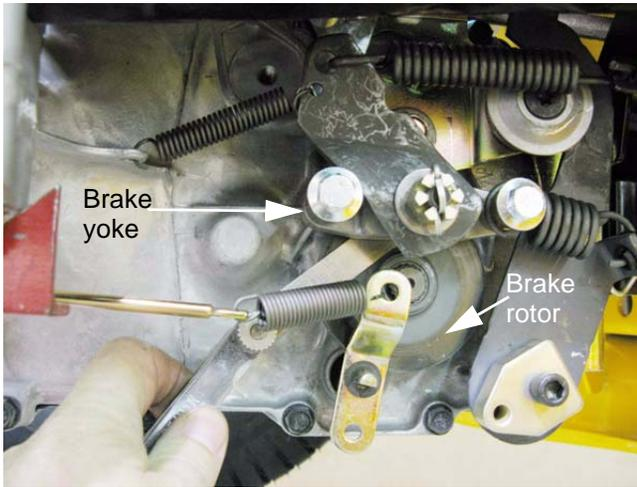

Figure 5.16
- 2c. Adjust the gap, if necessary, so that the feeler gauge slips between the pad and the rotor with light pressure. See Figure 5.16.